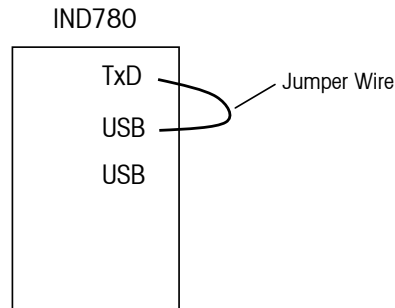

Figure 4-26: Jumper Wire Placed Between the Transmit and Receive Terminals
- If a jumper wire is placed between the transmit and the receive terminals (Figure 4-26) on the port being tested, the same data string that is transmitted displays as the receiving field.